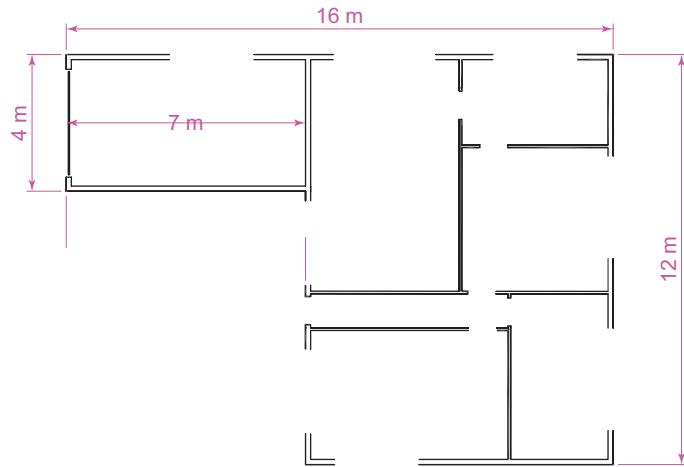

Fig. 9.5 First example – inserting blocks. Outline plan
Ensure that all the symbols saved as blocks using the **Create** tool are saved in the data of the drawing in which the symbols were constructed, erase the drawings of the symbols and in their place construct the outline of the plan of a bungalow to a scale of 1:50 (Fig. 9.5). Then:
- With the outline plan (Fig. 9.5) on screen the symbols can all be *dragged* into position from the DesignCenter.